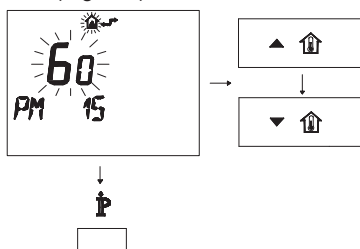

Fig. 8.4
- Modify the programmed SET by pressing buttons \uparrow or \downarrow until a **setting of 60** is displayed, wait for the number programmed to flash (Fig. 8.4).